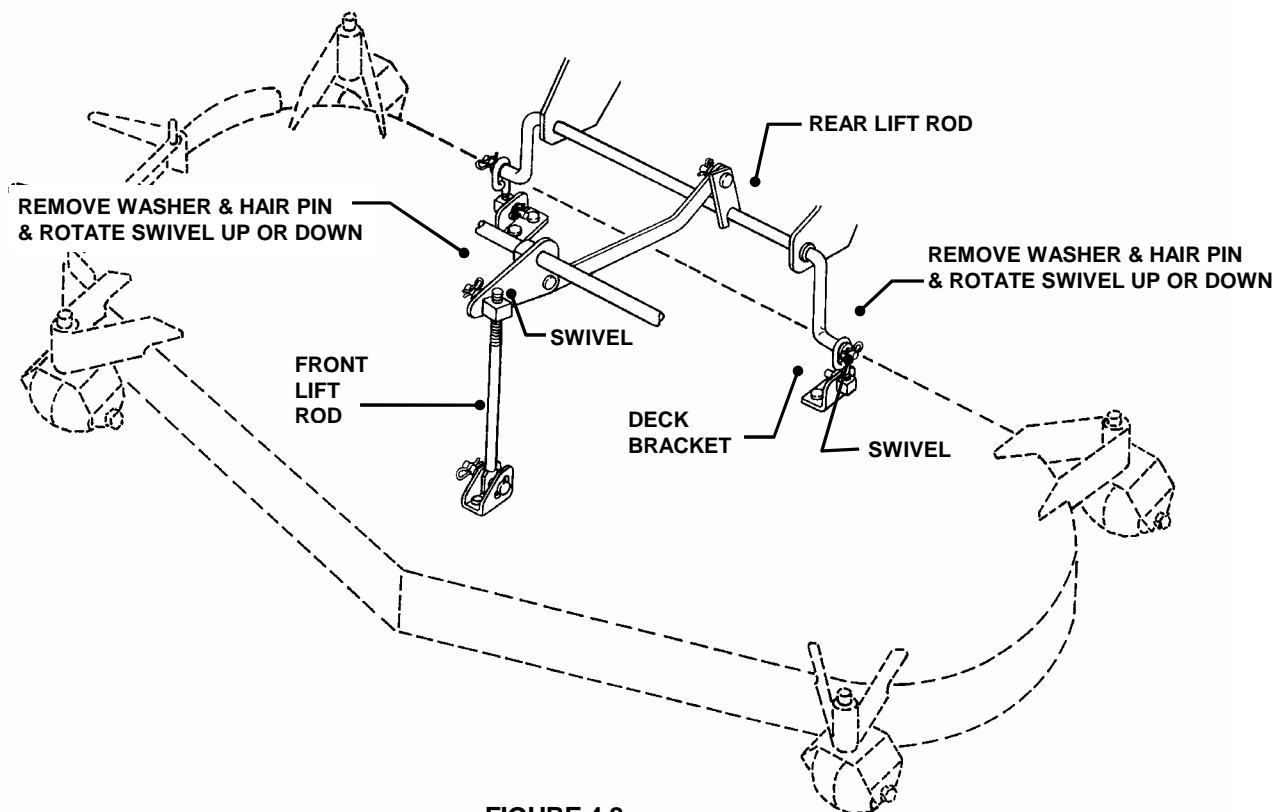

FIGURE 4.8
7. Rotate swivels on both sides up or down to achieve the proper levelness. See Figure 4.8.
5. Reinstall swivel/lift rod into hanger bracket. Reinstall washer & hair pin to secure swivel to hanger bracket. See Figure 4.8.